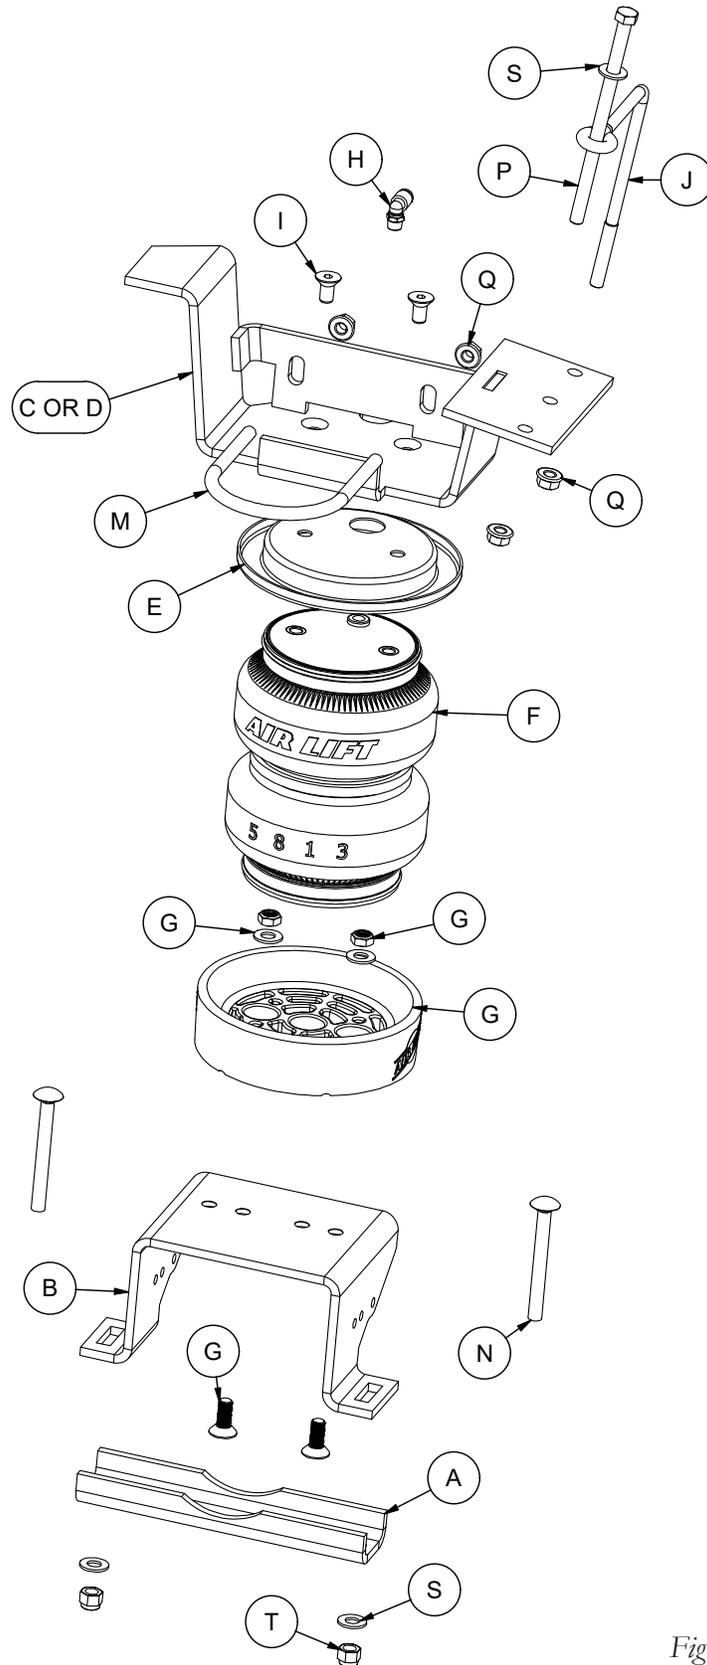

Fig. 1
* Not shown in assembly view (Fig. 1).